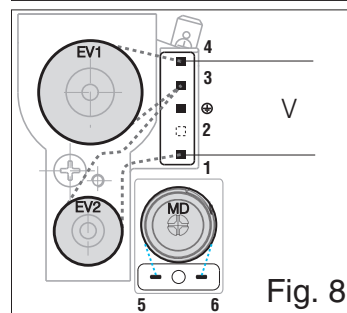

Fig. 8
- the connection diagram is given in Fig.8. The automatic shut-off valve EV1 and EV2 in series shall be supplied connecting pins 1 and 4. **Pin 3 is only for production tests. Do not use in the appliance.**